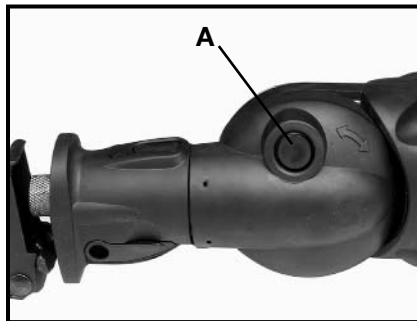
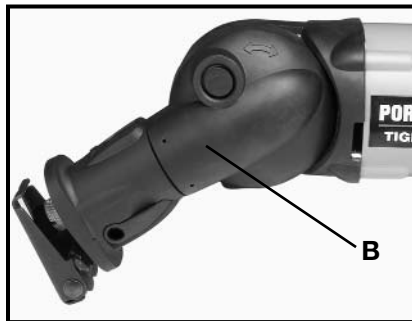

Fig. 6
Fig. 7
3. To rotate the gear housing, depress lock button (A) Fig. 6. Hold the button depressed while moving the gear housing up or down to the desired position or angle. Then release the lock button and continue to move the gear housing until the lock button snaps into the desired detent position (B) Fig 7.